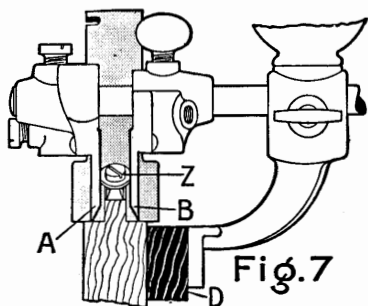

Fig. 7
**Fig. 7—MATCHING (Tongue)**—Insert the tonguing cutter and set the Stop (Z) attached to same, at the proper point to obtain the height of the tongue desired. Fence (D) regulates the position of the tongue on the edge of the board. The Gauge (G) and the Spurs are not used. Boards varying from three-quarters of an inch to one inch in thickness can be matched in the center.